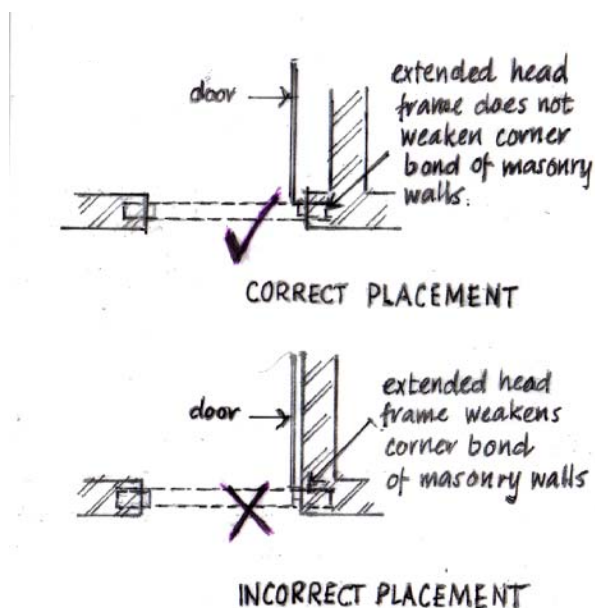

Fig 9- Positioning door openings
- Made sure that openings for doors and windows have adequate allowance of masonry space on either side of the door/window for its framing (especially the head frame) to be securely fixed (See Fig. 9)